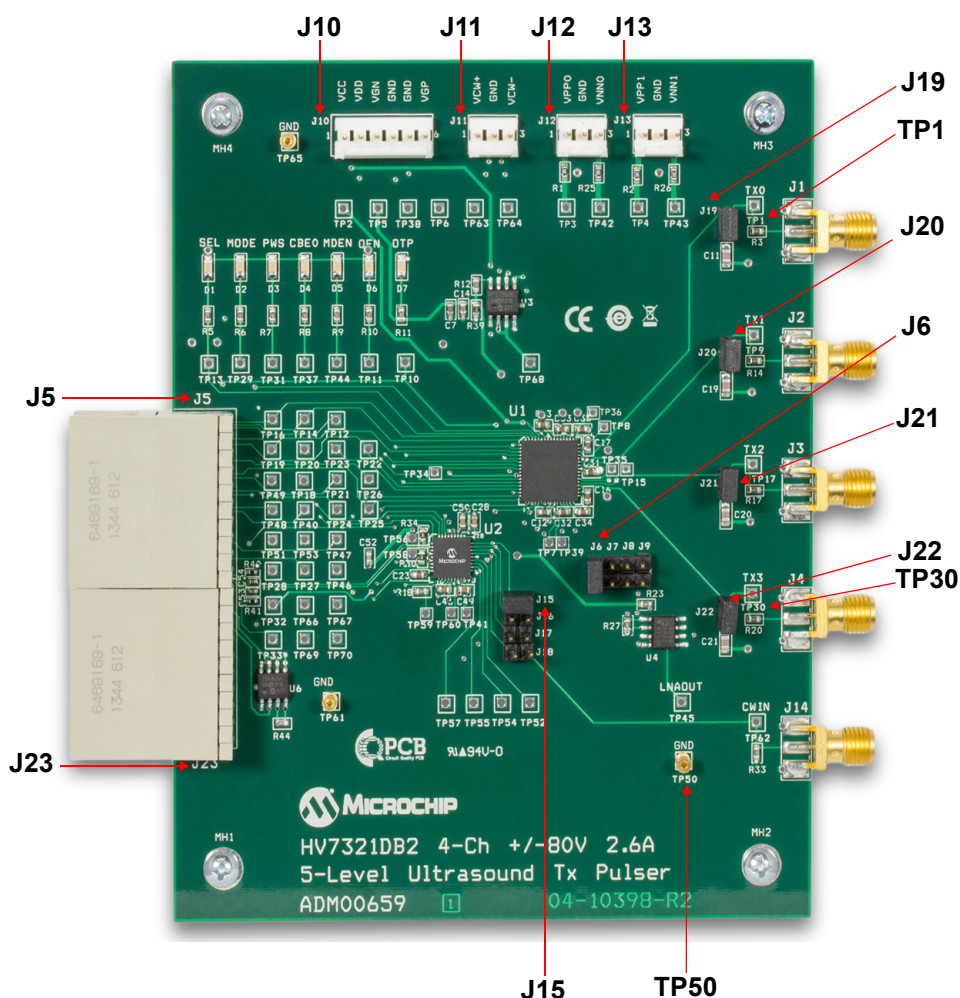

FIGURE 2-1: HV7321 Ultrasound TX Pulser Evaluation Board – Front View.
- connect J5 and J23 on the HV7321 Ultrasound TX Pulser Evaluation Board (see Figure 2-1) to the MUPB001 FPGA control-board
1. connect J5 and J23 (Figure 2-1) to a Microchip Ultrasound Platform Board (MUPB001) (ADM00679) (Figure 2-2).
2. connect all HV7321 Ultrasound TX Pulser Evaluation Board jumpers on J6, J15, J19, J20, J21 and J22 for the R-C load. See Figure 2-1.
3. connect all power supplies to the voltage supply input connectors J10, J11, J12 and J13 as indicated in Table 2-1 by observing the polarity. See Figure 2-1.